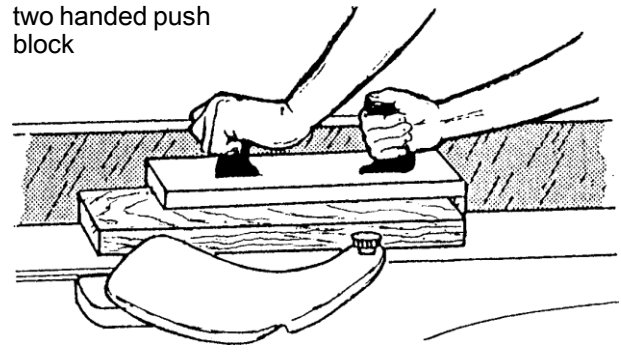
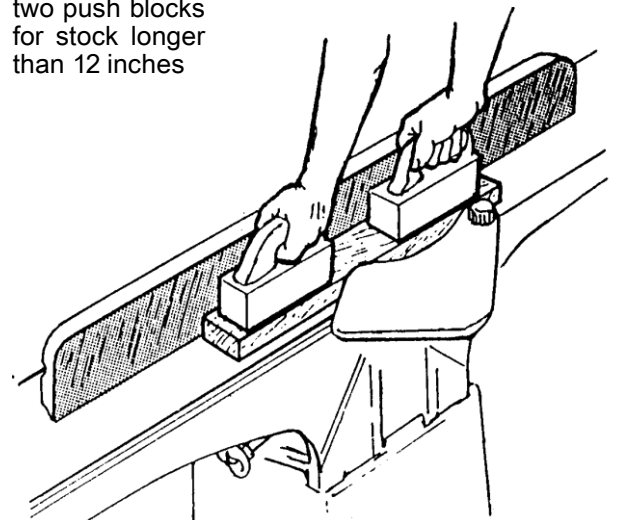
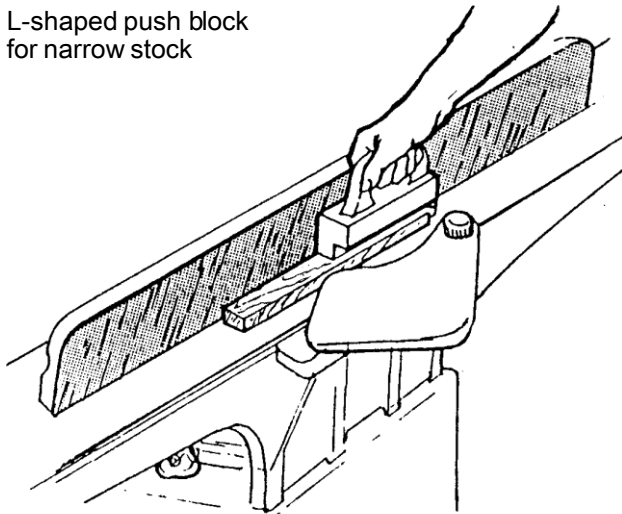
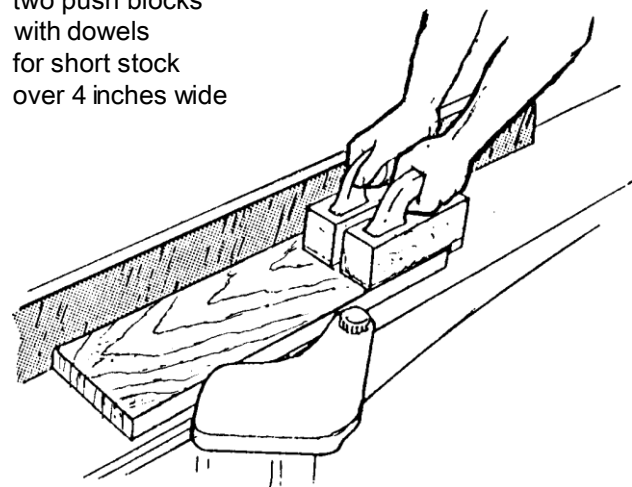

Fig. 31
FIG. 32
FIG. 33
FIG. 34
5. Keeping hands well clear of the cutterhead, place the stone into position as shown in Fig. 34, and slide the oilstone back and forth across both tables until the knives are lightly jointed.
Never surface pieces shorter than 12 inches or thinner than 3/8 inch without the use of a special work holding fixture. Never surface pieces thinner than 3 inches without the use of a push block. On stock 8" to 12" long use a single two-handed push block (Fig. 31). On stock longer than 12 inches use two push blocks (Fig. 32). With narrow stock use the type push block shown in Fig. 33. When surfacing short stock over 4 inches wide, use two (2) push blocks to guide material over cutterhead (Fig. 34).